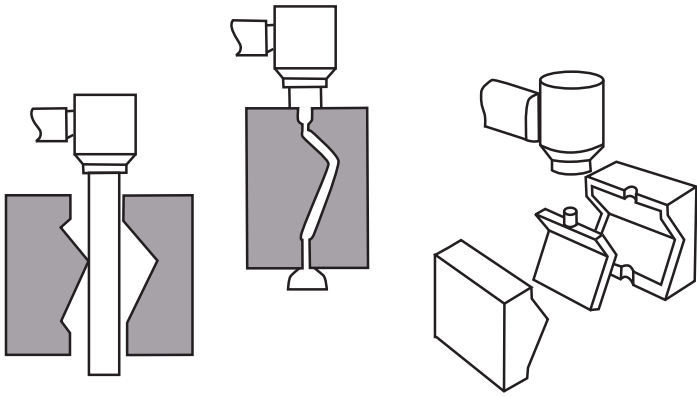

Figure 6
- Part is oriented at an angle to minimize the amount of stretching (figure 6).